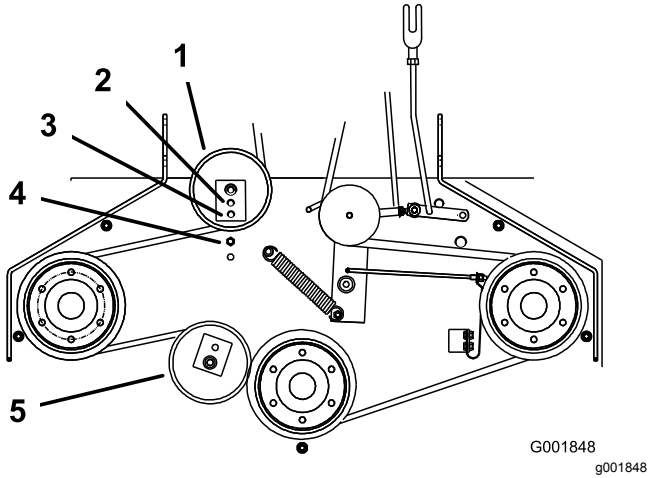

Figure 45
6. If there is no adjustment remaining in the turnbuckle and the belt is still loose, the rear idler pulley needs to be positioned to the middle or front hole (Figure 45). Use the hole that provides the correct adjustment.
7. When you move the idler pulley, you must move the belt guide. Move the belt guide to the front position (Figure 45).